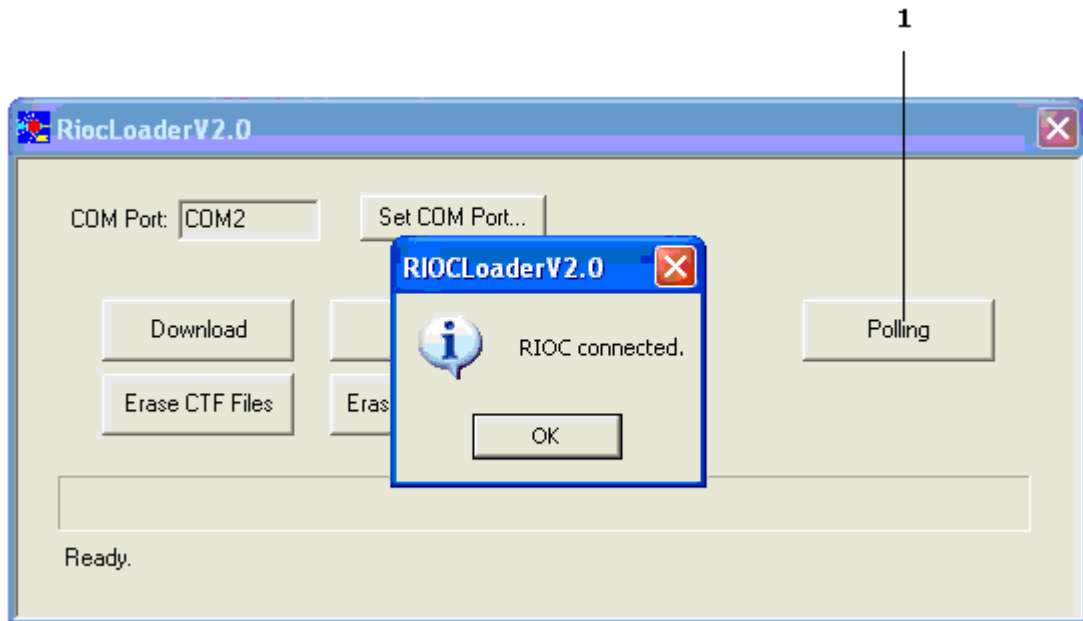

Figure 2
- (9) Select the Polling button (Ref. Fig 2, Item 1).
- (10) Make sure that the “RIOC connected” message is shown on the RIOC Loader V2.0 dialog box (Ref. Fig 2), then click OK.